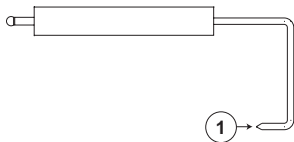

Figure 25
- Ensure that the electrode tip (1 – Figure 25) is always sharp and oxide-free. Use some sand paper to clean it, if necessary.
- Check the ignition electrode position (see Figures 25 & 26).